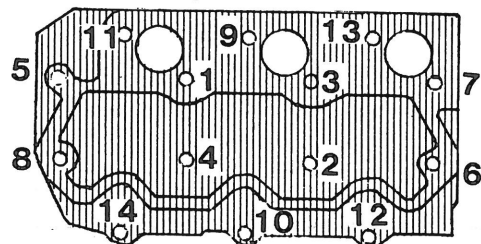

Figure 36 - Bolt tightening sequence, 753
- Tighten bolts sequentially in order shown. See figures 36 through 40.